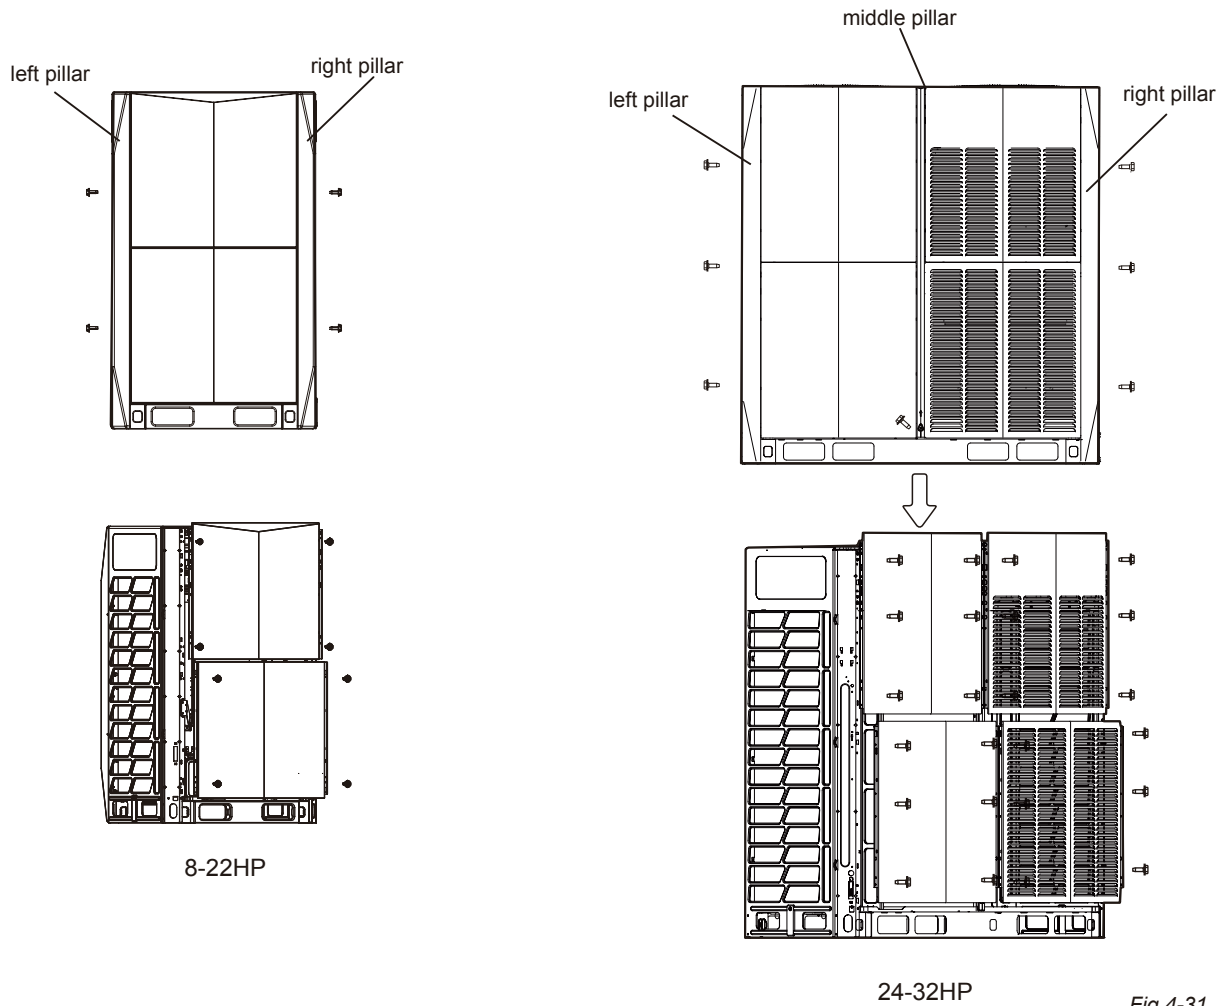

Fig.4-31
1. 8HP-22HP: Dismantle the left and right pillars: Remove the 4 screws from the left and right pillars. (Fig.4-31). Rotate both and then lift them 2 mm (Fig. 4-32) to remove them; 24HP-32HP: Dismantle the left, right, and middle pillars: Remove the 6 screws from the left and right pillars. (Fig. 4-31). (Fig. 4-32) to remove them; 24HP-32HP: Dismantle the left, right, and middle pillars: Remove the 6 screws from the left and right pillars. (Fig. 4-31).
2. Dismantle the upper panel: Remove 4 screws (8HP-22HP) or 6 screws (24HP-32HP) from the upper panel on left and right sides (Fig. 4-31 ). Dismantle the upper panel: Remove 4 screws (8HP-22HP) or 6 screws (24HP-32HP) from the upper panel on left and right sides (Fig. 4-31 and Fig.4-32). Then lift the panel 3mm to remove it.
3. Dismantle the lower panel: Remove 4 screws (8HP-22HP) or 6 screws (24HP-32HP) from the lower panel on left and right sides (Fig. 4-31 and Fig.4-32) and then lift the panel 3 mm to remove it.